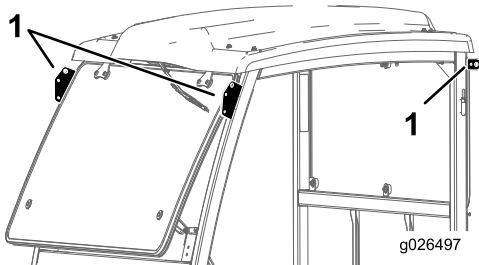

Figure 5
1. Lift the cab frame using the lifting points and place it on the machine (Figure 5).